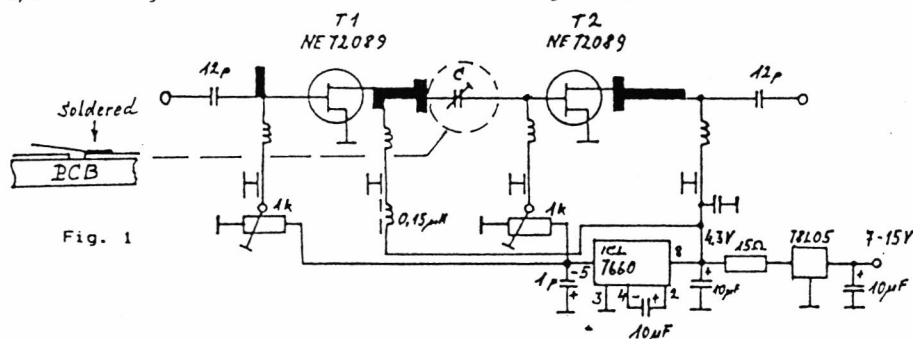

Fig. 1
E. This amplifier is usable as preamp. as well as smallpower amplifier. Maximum rf output on 5760 MHz is abt. 60 mW at 24 dB gain. Best noise figure is adjustable with the open stub in the input circuit (min noise figure abt. 1.5 dB). If the amplifier is adjusted for highest gain, the noise figure increases to about 4 dB. The gates are driven by a voltage converter IC ICL7660 (Intersil). Normally gate voltage should stay before the supply voltage reaches the drain of transistor. In this case it isn't necessary because the voltage converter operates already with very low supply voltage and the negative output voltage arrives the gate in time because the RC combination 15 Ohm and 10 uF. For lowest noise figure adjust the drain current to 10 mA of each transistor. When operating as small power amplifier increase the current to 20-30 mA. The variable coupling capacitor is home brew, a silverplated copper band (3mm x 7mm x .5mm) is soldered on the printed transmission line, gate T2. Take care under adjustment of this capacitor, because you may not touch the drain transmission line from T1 (4 V positive voltage!). The best protection under adjustment is to isolate the drainline T1 using a thin Teflon foil. Varying of this capacitor moves the center transmission frequency. As PCB material is used DUROID RT5870. Transistors NE72089 are obtainable from DL7QY (74,--DM each). Fig 1 shows the circuit diagram. Fig. 2 shows the PCB layout and Fig 3-5 the transmission curves and gain characteristics.